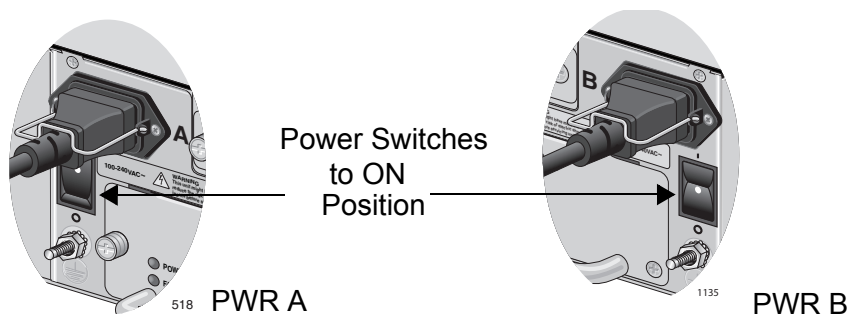

Figure 40. ON/OFF Power Switch in ON Position
- Turn the ON/OFF power switch of the installed power supply module to the ON position, as shown in Figure 40.